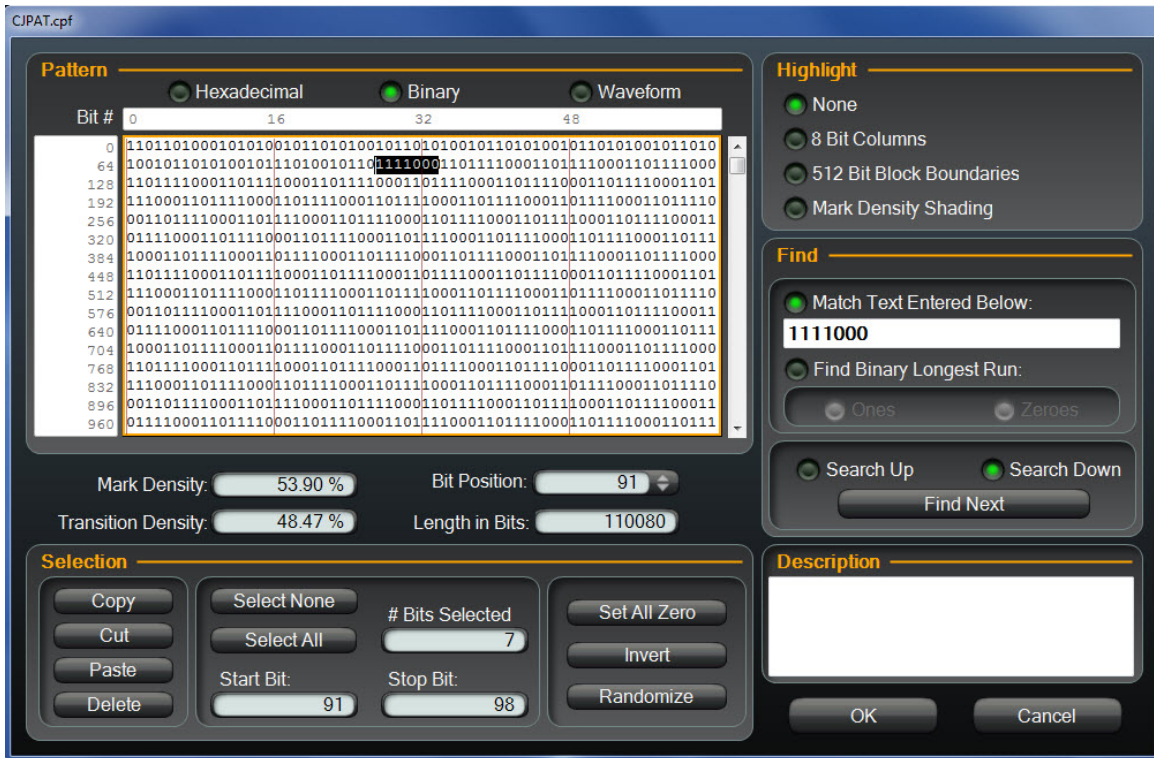

Figure 88. Searching for bit pattern
4. Click on the **Find Next** button to begin the search. Refer to Figure 88.